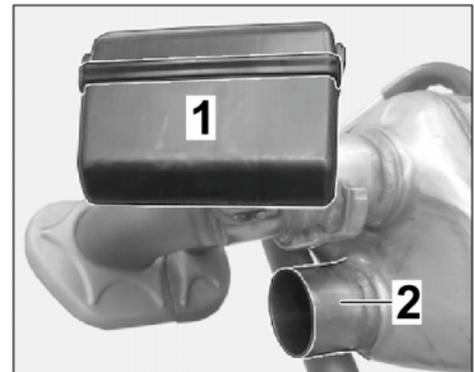

Figure 6
- 2.4.2 Remove transport protection shell on the new muffler in the exhaust flap connector area (⇒ *Figure 6*).